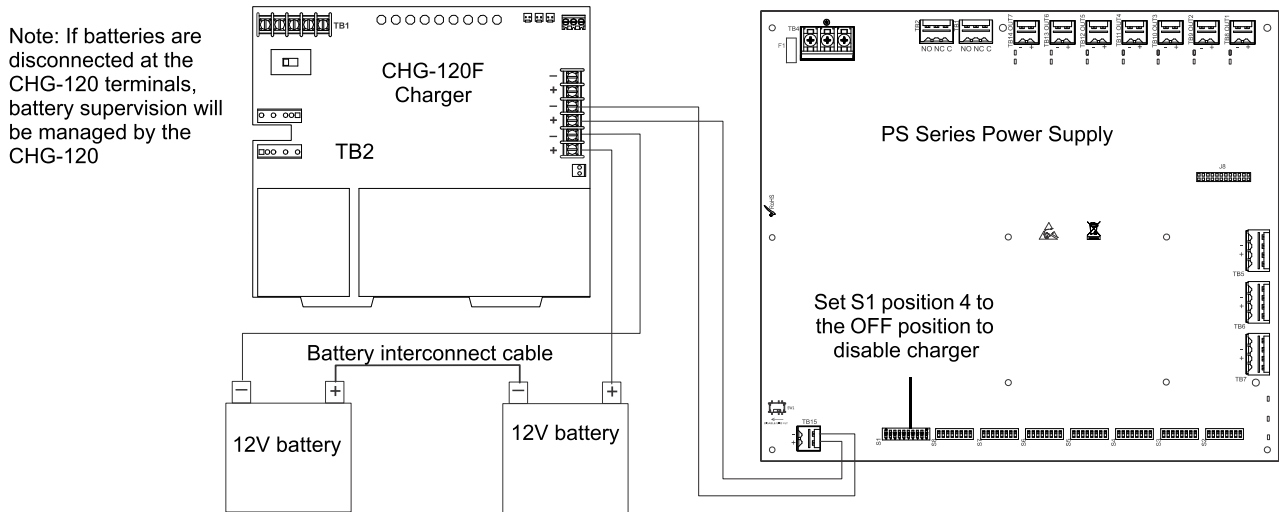

Figure 2.9 Connecting the Power Supply to a CHG-120F Charger
- Connect the battery cables between TB15 (+ and -) on the FL-PS and the CHG-120F charger output circuit (TB2: Out 1+ and Out 1-) as shown in Figure 2.9. Be certain to observe polarity.